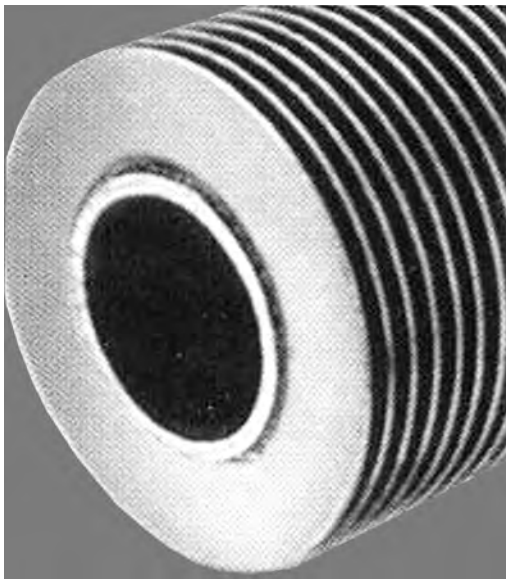

FIGURE 13.6 Continuous circular fins on a tube.
- > The finned surface in Figure 13.6 is made by the use of solid fin formed by stretching a strip of metal around the tube.